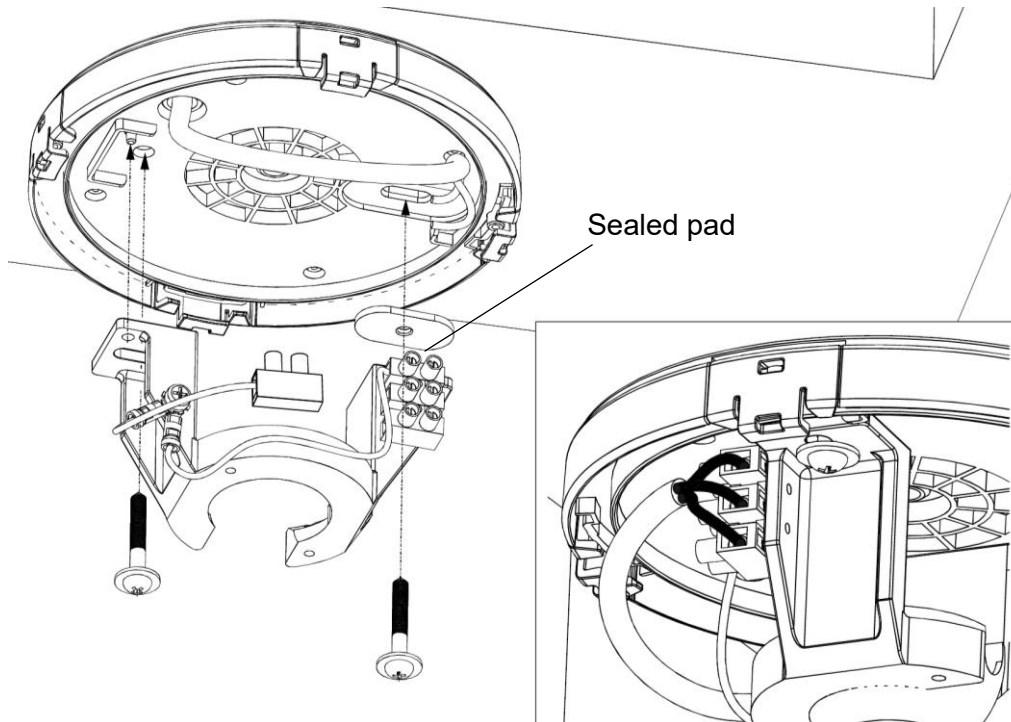

Fig. 3.1
1. Insert the mains supply cable through the cable entry of the ceiling canopy top cover. (Fig. 3.1)
2. Install the hanger bracket onto the ceiling. (Fig. 3.1)
NOTE: Check and ensure the sealed pad is in place (Fig. 3.1)
3. Connect the mains supply cable to the terminal block. (Fig. 3.1)